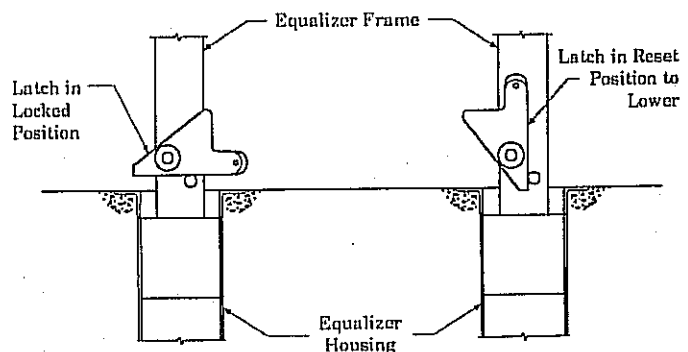

Fig. 15
- B. Resetting Locking Latches: Raise lift to full rise, rotate latches to reset position, Fig. 15.